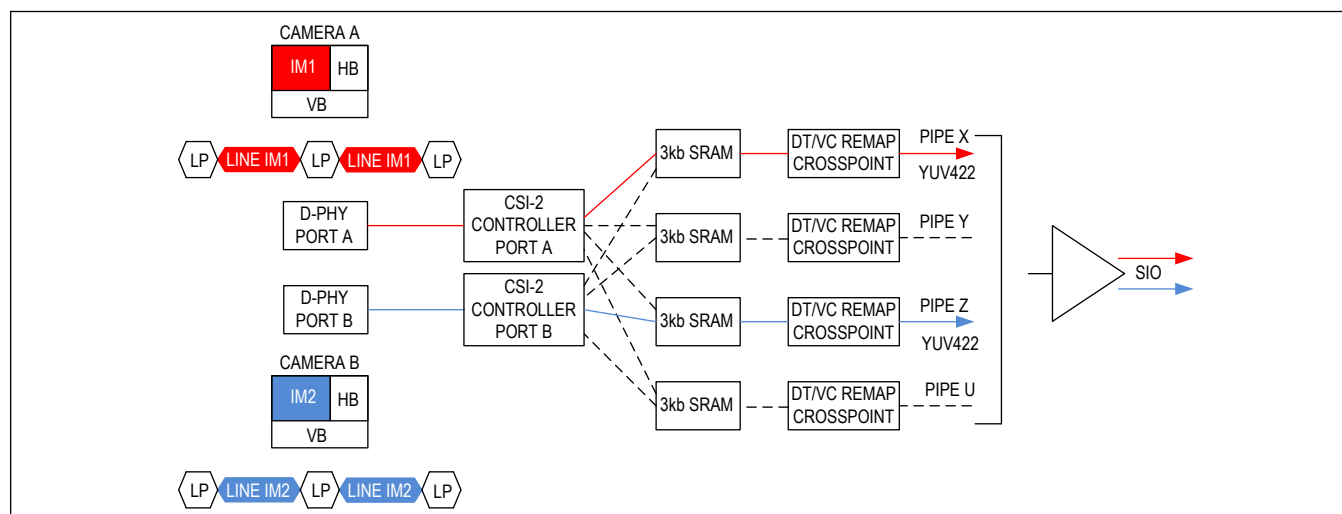
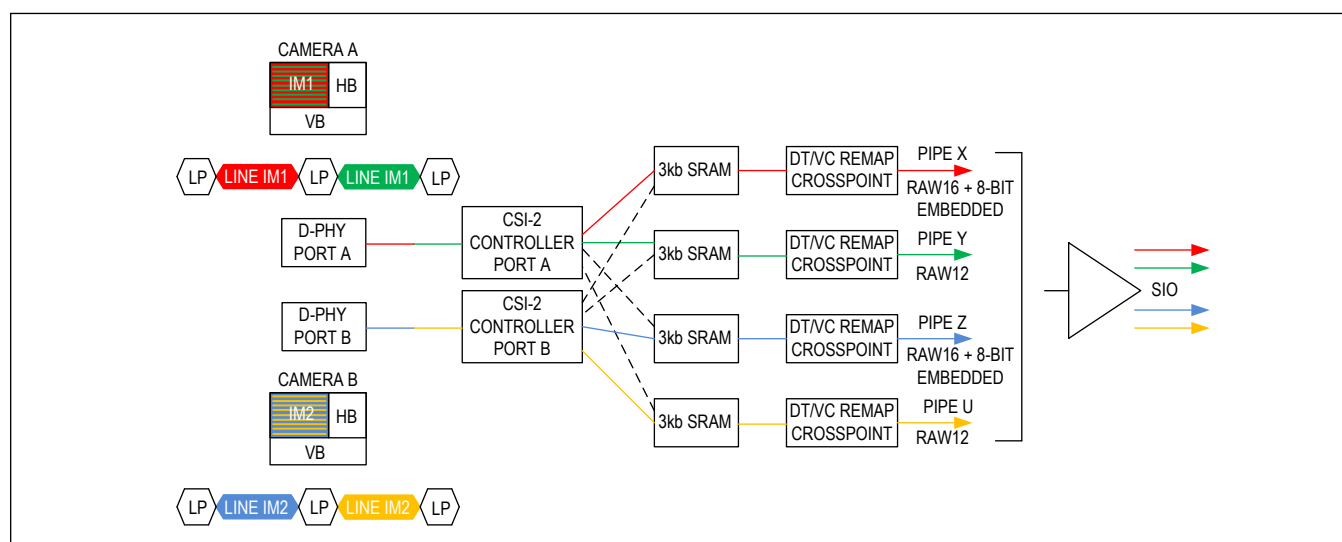

Figure 16. Serializer Video Pipes for Dual Port YUV422
Figure 17. Serializer Video Pipes for Dual Port RAW16 with 8-Bit Embedded Data and RAW12
Modes 1 and 3 carry data at full bandwidth but put more restrictions on bpp than Mode 2. Mode 2 allows streams with different bpp, but streams of less than 16bpp are carried using more bandwidth than necessary on the GMSL2 link because of zero padding. Mode 1 or Mode 3 are sufficient for most applications. Mode 2 requires less programming and is more convenient if the application does not require maximum link bandwidth. The MAX9295D has dual input ports and four total video pipes shared by the two inputs as shown in Figure 16. In typical camera applications, one pipe can carry a YUV422 video stream from the source device. Cameras that output RAW or multiple-exposure HDR data often require more than one pipe as shown in Figure 17, where transmission of RAW16/8-bit embedded data and RAW12 requires utilization of two pipes. In the examples shown in the figures, each camera is routed to a separate pipe or pair of pipes. Depending on the formatting of the video data, it may also be possible to route both cameras on a common pipe or pair of pipes by appropriately using virtual channels. This depends on whether the previously described constraints for the pipe's operating mode are met by the cameras' outputs.
Each of the four pipes in the MAX9295D has a dedicated MIPI receiver buffer. Each retiming buffer has the capacity to buffer 96 24-bit pixels. This provides sufficient memory for transmission of a line to start without overflow or underflow. The number of pipes used by a deserializer is equal to the number of pipes used by all connected serializers. For example, a link consisting of a GMSL2 deserializer connected to a MAX9295D serializer can utilize four data pipes. This would enable flexible formatting of the output of two independent sensors, as shown in Figure 17. After data exits the retiming buffer, it goes through a crosspoint switch and a data type (DT) and virtual channel (VC) reassignment stage. If the video source has a CSI-2 output, packet DT and VC can be left as-is or reassigned by register programming as desired. Up to four DT/VC incoming pairs can be mapped to four DT/VC outgoing pairs.